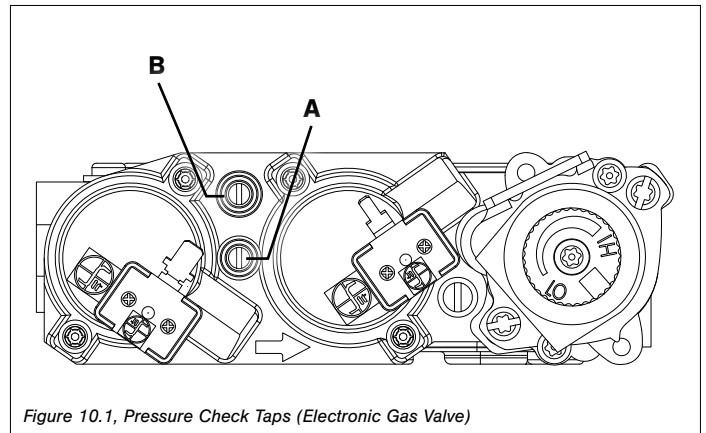

Figure 10.1, Pressure Check Taps (Electronic Gas Valve)
1. Loosen the inlet (IN) pressure tap by turning screw counter-clockwise. See (A) in Figure 10.1.
3. Set IPI/CPI rocker switch to CPI (ON).
7. Disconnect hose and tighten the inlet (IN) pressure tap by turning screw clockwise. Screw should be snug. Do not over tighten.
8. Relight pilot and burner. Then reattach manometer to the inlet pressure tap (A) to verify the tap is completely sealed. Manometer should read no pressure.
2. Loosen manifold (OUT) pressure tap by turning screw counter-clockwise. See (B) in Figure 10.1.
4. Set IPI/CPI rocker switch to CPI (ON).
8. Attach the manometer to the manifold pressure tap (B) to verify it is completely sealed. The manometer should read no pressure when pilot and burner are on.